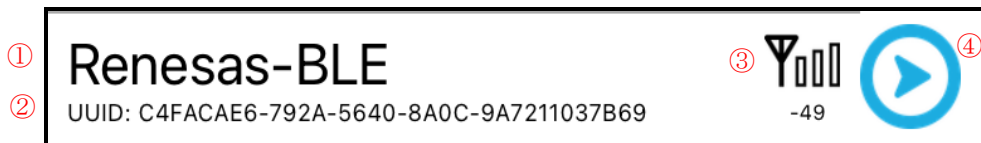

Figure 6-16 Bluetooth LE device information in short format
Initially, the list of Advertising Bluetooth LE devices found in surrounding area is shown as short format include only four parameters; (1) Device Name, (2) Device UUID, (3) RSSI and (4) connection button as shown in Figure 6-16. In this format, the detail information of Bluetooth LE device is listed in Table 6-5.